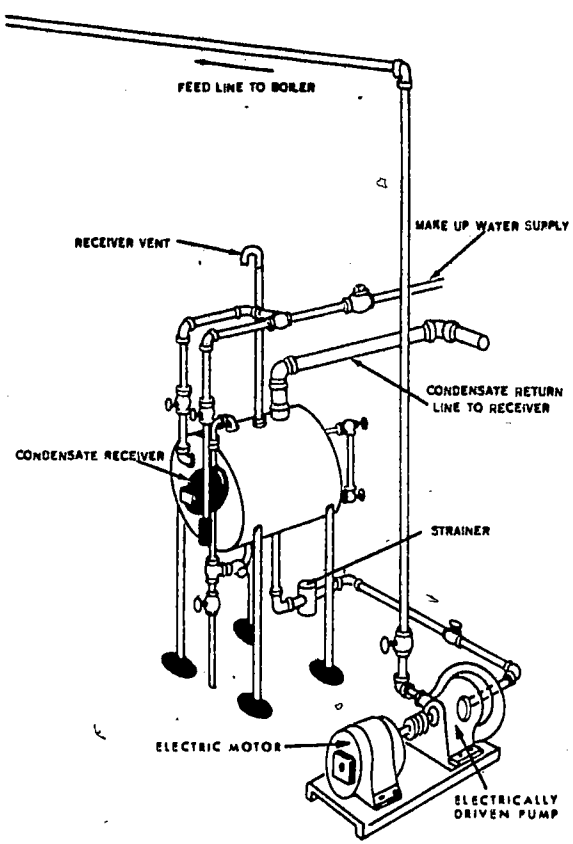

Figure 14. Piping arrangement for an electrically-driven feed-water pump.
10. The piping arrangement for a boiler with an electric feed-water pump is illustrated in figure 14. This piping arrangement is provided with a valve installed in the piping between the condensate receiver and the pump, and still another valve between the pump and the boiler. By closing these valves, you can repair or replace the pump without interrupting the operation of the boiler. However, when this pump is taken out of service, the standby feed-water system must be placed in